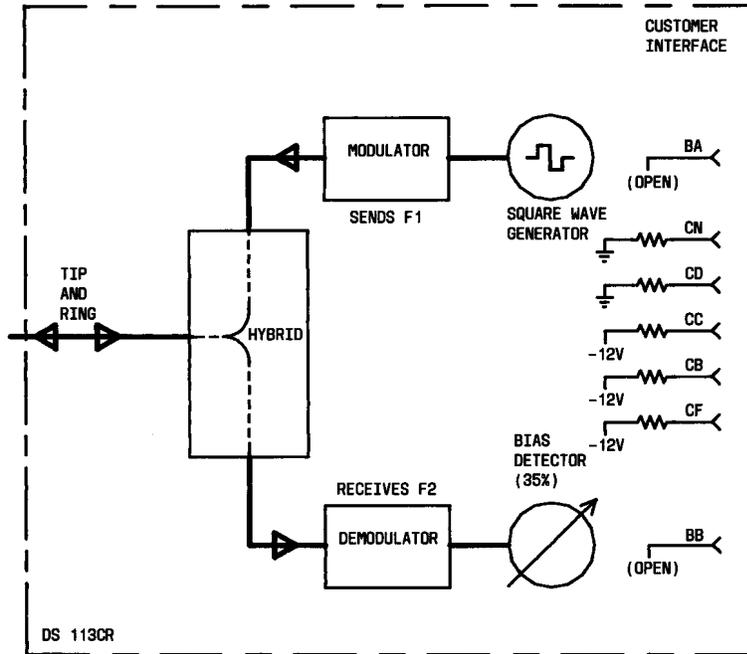

Fig. 2—Self Test Mode—Simplified Block Diagram
**2.07** Depressing the ST button causes the following to occur (Fig. 2):
**2.09** To perform an end-to-end self test (Fig. 2), a call is set up to a DS 100-type which operates in the answer mode equipped with a self